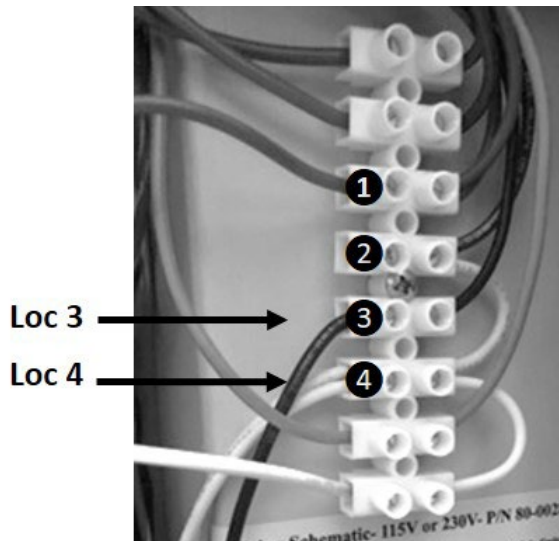
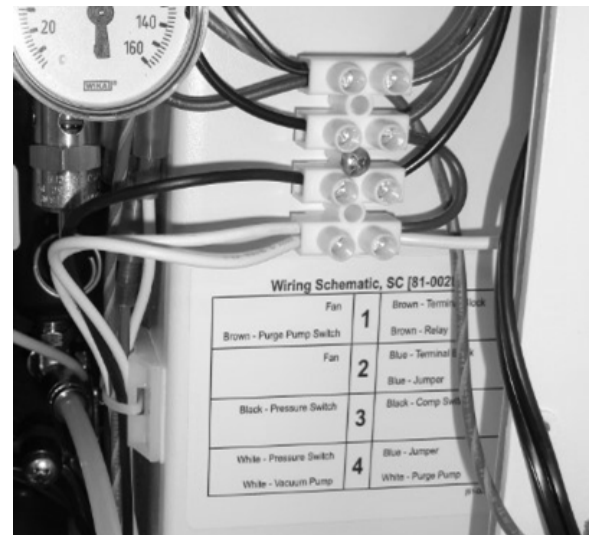

Fig. 2 - Eight-position terminal for SN 180119 and earlier
Fig. 3 - Four-position terminal for SN 180120 and later
- 5 Locate black and white wires coming from the compressor and follow them to the terminal block. Using a small flat head screwdriver, loosen screw in location "3" for removing black wire and location "4" for removing white wire. These positions are shown in Fig. 2 and Fig. 3)
- 6 Locate the three locking hex head bolts on the bottom of the metal plate holding the compressor. There are two in the front and one in the center on the left side. Remove them using a 7/16" wrench or socket and set aside. (Fig. 3)